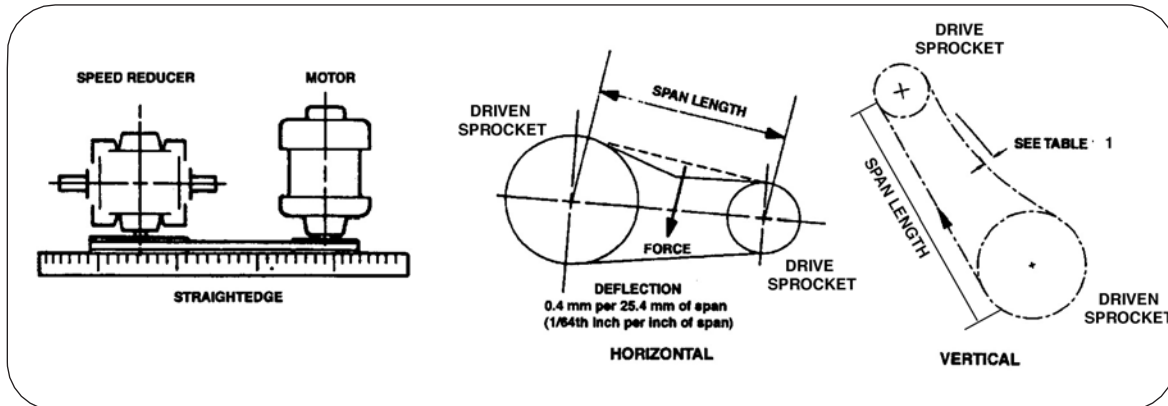

Figure 3. Reducer/Motor Alignment and Tension Adjustment
1. Check sprocket alignment using a straight edge or taut cord stretched across the faces of the drive sprocket and the driven sprocket (Figure 3). The tolerance is 1/8" per foot (± 0.5 degrees or 3.5 mm per 0.3 m).
3. Check roller chain tension. Deflection of the span shown in Figure 3 and Table 1.
1. Check sheave alignment between the motor and speed reducer by placing a straight edge across the face of the sheave faces (Figure 3). Inside and outside sheave diameters should be touching the straight edge at all four points as shown in the illustration. Alignment of the sheaves should be within 1/8" per foot (+ 0.5 degrees or 3mm per 0.3 m).
- Measure the span length as shown in Figure 3.
- Check belt tension by pressing firmly on the individual belt. A belt that can be depressed an amount equal to 0.4 mm per 25 mm of span (1/64th inch per inch of span) is properly tensioned (Figure 3).
This unit is preset at Jorgensen Conveyors, and should only require resetting if clearing the overload does not stop the ratcheting. Refer to Figure 3 and proceed as follows: